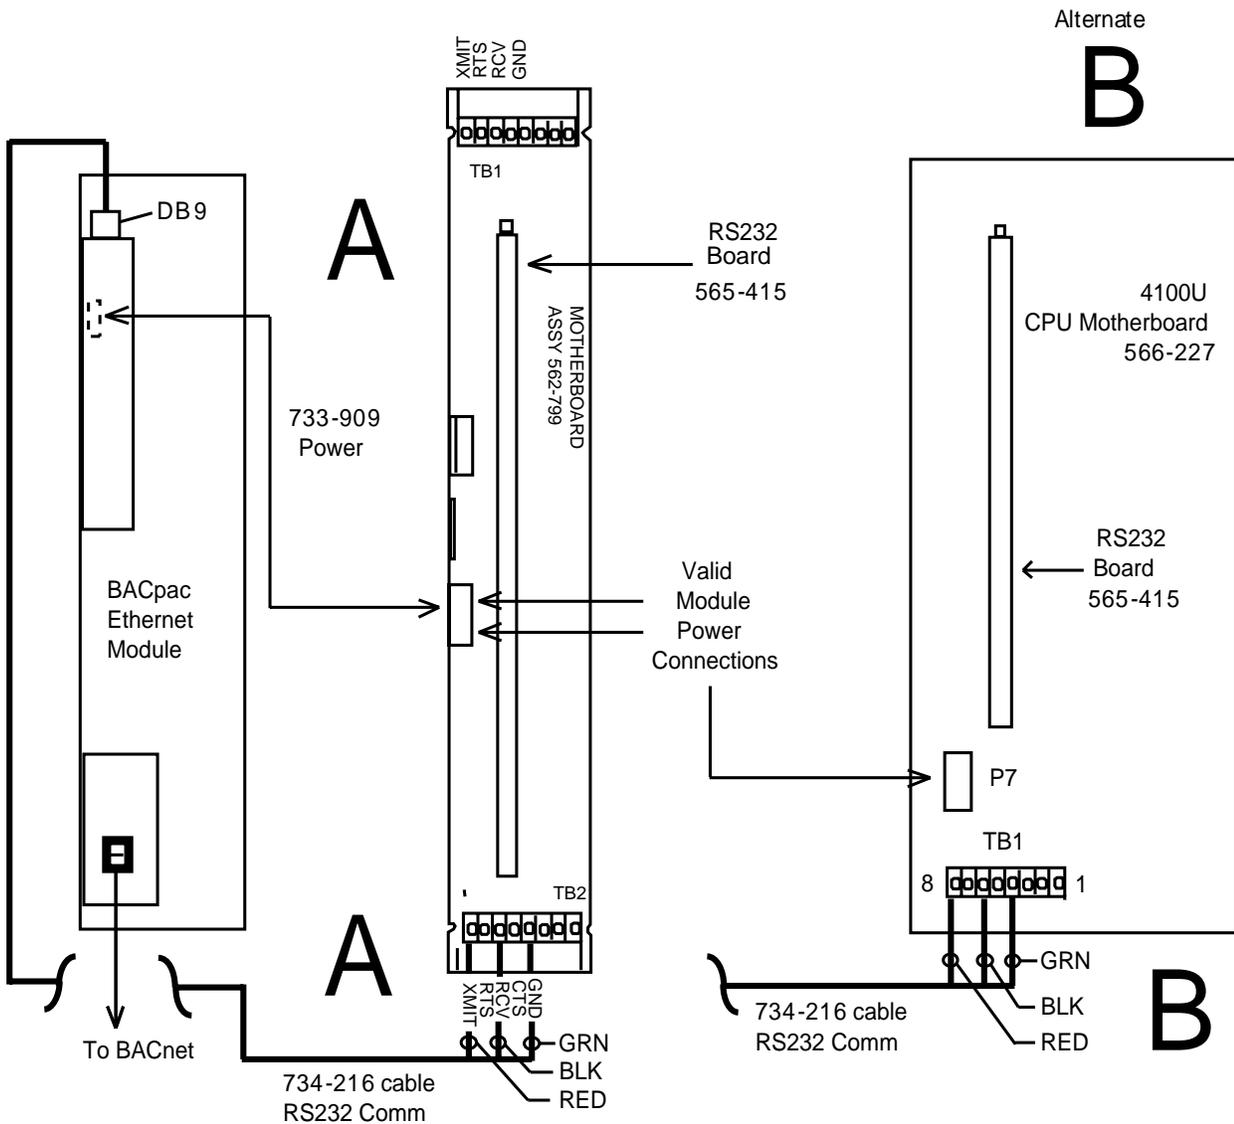

Figure 8: BACpac Ethernet Module Interconnections (4100U Shown)
The BACpac Ethernet Module may be installed in any 2" slot that is within reach of the power and data interface connections. The power cable is 48" long and the RS-232 cable is 48" long. As shown in Figure 8, the power cable is terminated at any legacy style power plug for power ("A"), or the 4100U/4100ES CPU Motherboard P7 ("B").
9. Install the Red, Black and Green wires into TB2 on the Legacy motherboard, or TB1 on the 4100U/4100ES CPU Motherboard per Table 5 and Figure 8.